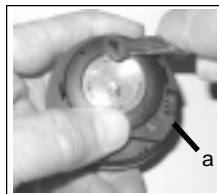

Fig. 76 -Tightening the Retaining Ring
- Using your fingers, turn the Ring counter clockwise 5 degrees until the tabs engage (Fig. 75), then tighten it 5 more degrees by turning it counter clockwise using the Battery Hatch Tool (Fig. 76).